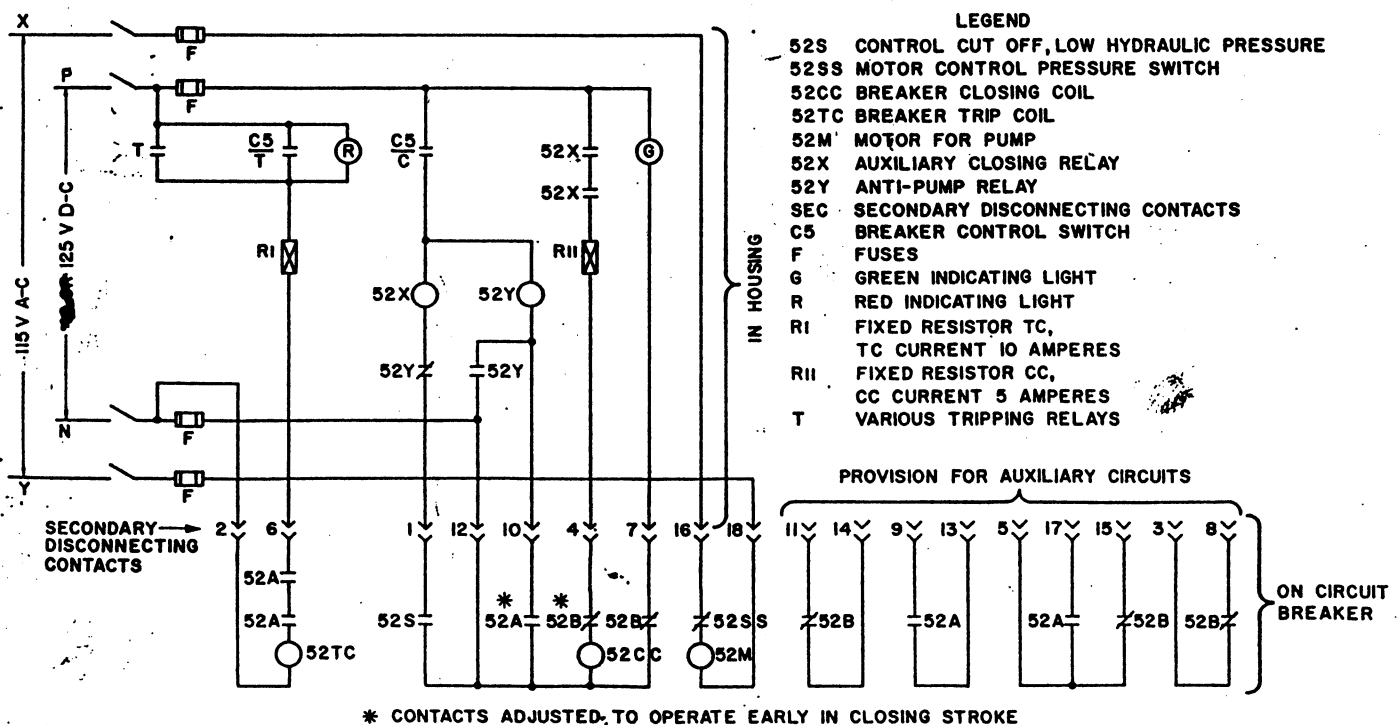

FIGURE 12
2. Pressure switch—motor cut-off (14, Figure 7 and 13, Figure 10; also 52SS, Figure 12): Should cut motor off at 3000 psi, plus or minus 100 psi. Adjust by loosening lock nut and turning adjusting screw.
3. Pressure switch—low pressure closing cut-off (14, Figure 7 and 13, Figure 10; also 52S, Figure 12): Should open contacts when pressure drops to 1700 psi; closes contact when pressure rises to 1900 psi.